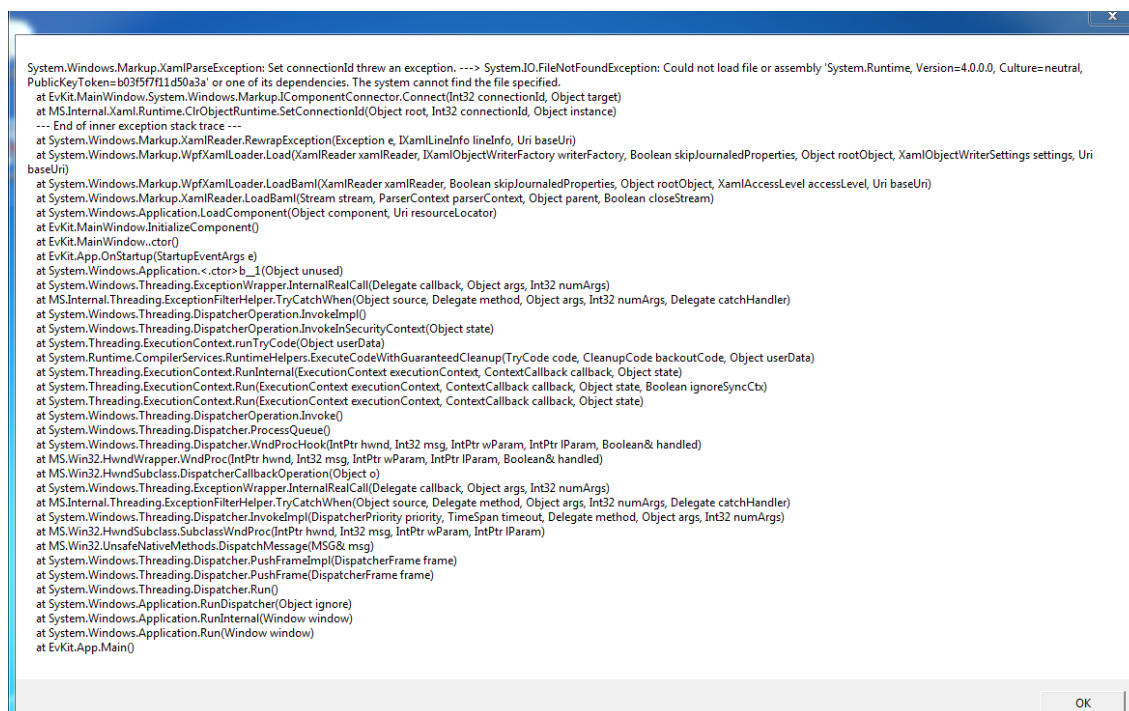

Figure 20.A Windows error message example which indicates that Windows .NET installation is out-of-date
- If an error message shown in (Figure 20) appears, the Windows .NET installation is not up-to-date or working as expected. Please run the Windows update or install the required .Net version manually to resolve the issue.